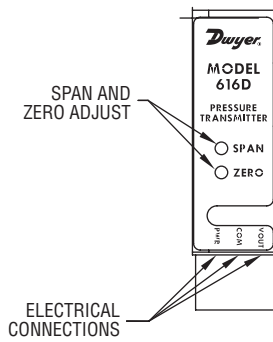

Figure 1: Electrical Connections
- 1. Location:** Select a clean, dry mounting location free from excess vibration where the temperature will remain between 14 and 185°F (-10 to 85°C). Distance from the receiver is limited only by total loop resistance. See electrical connections in Figure 1. The tubing supplying pressure to the instrument can be practically any length required, but long lengths will increase response time slowly.
Electrical Connections are made to the terminal block located in front of the transmitter. Terminals are marked PWR, COM, and VOUT. (See Figure 1 below)